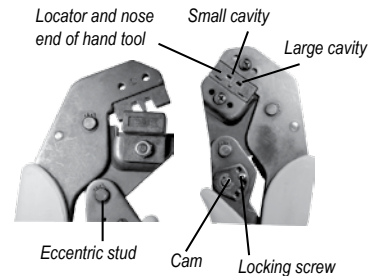

Figure 6
2. To adjust tool to obtain proper force values, open the handles and remove the cam locking screw with the hex key wrench (See Figure 6).